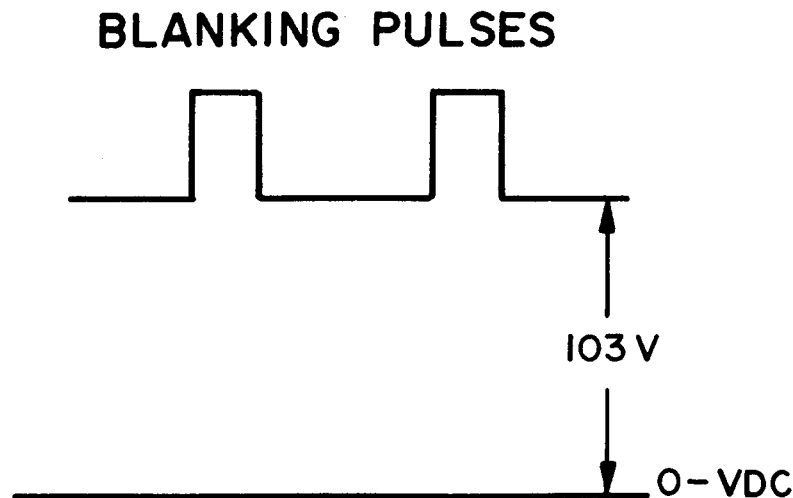

FIG. 10
7. If this white balance procedure is required because the CRT or neck board was replaced, then leave the contrast control at its original setting. If the contrast control is known to be grossly out of adjustment, then set it to its center of rotation. Adjust the brightness control VR6 to obtain the waveform shown in Figure 10. Now remove the scope probe.
13. With the oscilloscope connected to the collector of the lead color video output transistor (See Fig. 3), adjust the brightness control to obtain the waveform in Fig. 10.